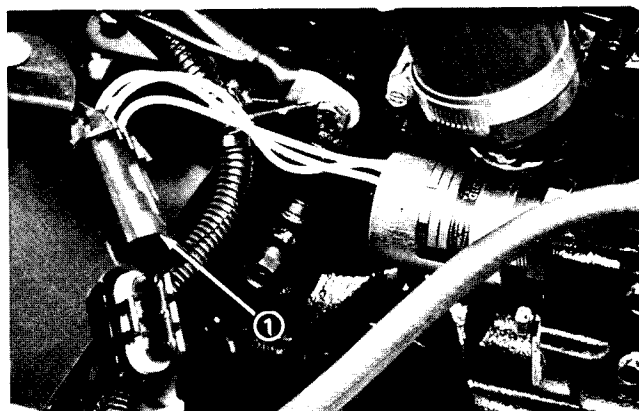

Figure 17
4. Disconnect the fuel stop solenoid electrical connector to prevent fuel delivery during the compression test (Fig. 17). This will prevent wash-down of the cylinders and inaccurate readings.